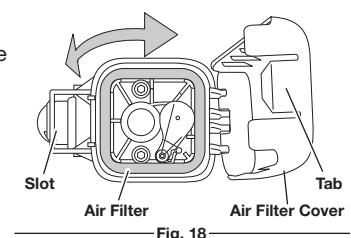

Fig. 18
- To open the air filter cover, push the tab on the left side of the cover inward and pull the air filter cover slightly out and to the right (Fig. 18).
- Remove the air filter (Fig. 18).
- To reinstall the air filter cover, position the hooks on the right side of the air filter cover into the slots at the right side of the back plate (Fig. 18).
- Swing the cover to the left and press closed so the air filter cover tab snaps into the slot on the back plate (Fig. 18).